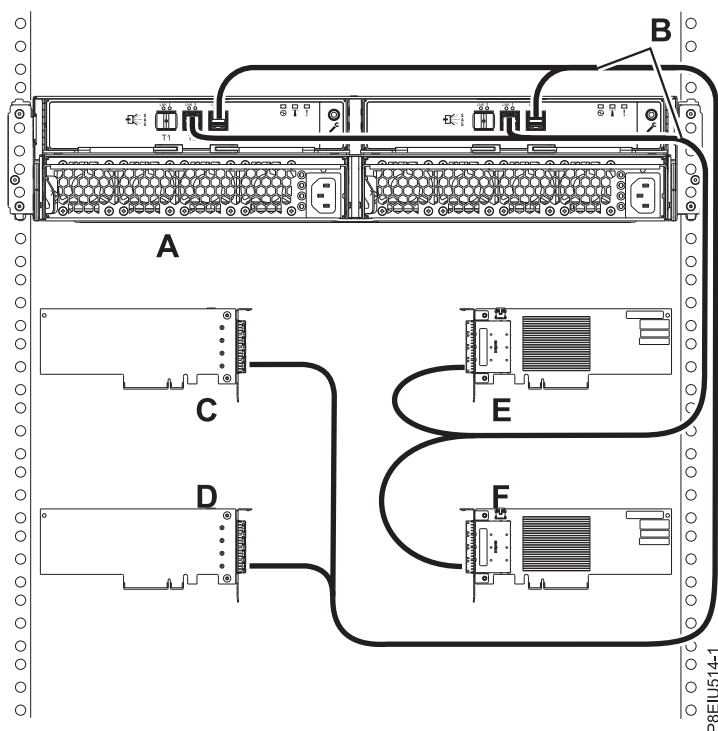

Figure 20. Mode 4 connection of one ESSL or ESLS storage enclosure by using X12 cables to four independent FC EJ0J or FC EJ0M SAS adapters
20. Complete a mode 4 connection of one enclosure (A) by using X12 cables (B) to four independent FC EJ0J or FC EJ0M SAS adapters, as shown in Figure 20 on page 21, and then continue with “Connecting cables, power cords, and installing covers” on page 22.